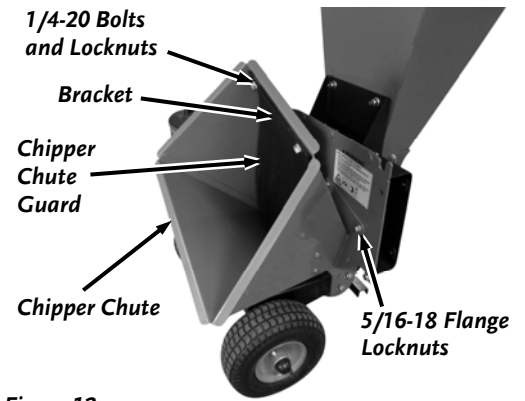

Figure 12
1. Using a 7/16" on the Locknut and 3/8" wrench on the Bolt, remove a Locknut from one of the Chipper Chute Guard Bolts, position it in the Chipper Chute, and loosely reinstall the Locknut (**Figure 12**). Repeat for the second Locknut. Fully tighten both Locknuts.